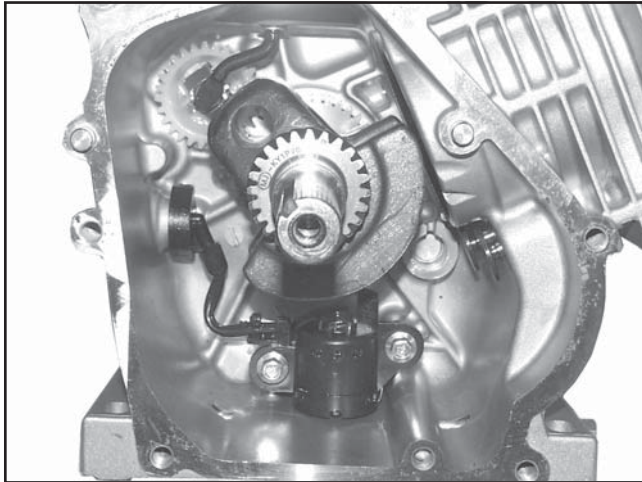

Figure 11-20. Installing Crankshaft.
1. Carefully slide the flywheel end of the crankshaft through the main ball bearing and seal. See Figure 11-20.